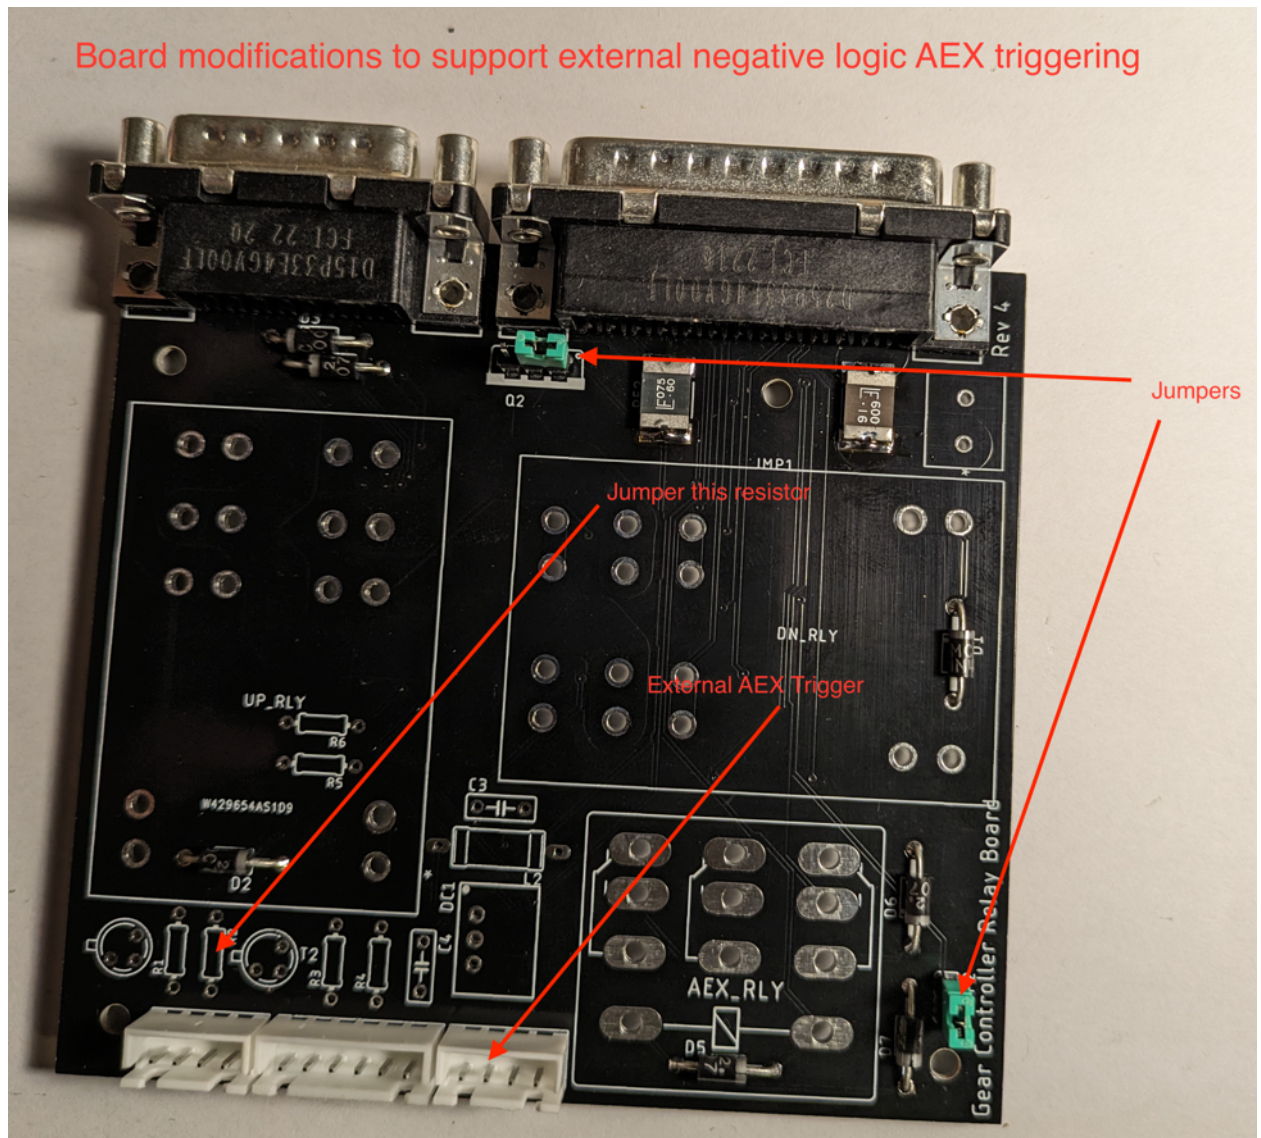

Figure 8 - AEX External Trigger w/Reversed Logic
- 12) (Optional, external AEX trigger reversed logic). Insert a jumper on the jumper header taking the place of Q2. The two pins bridged by the jumper should be the two closest to the main power connector (Figure 8).